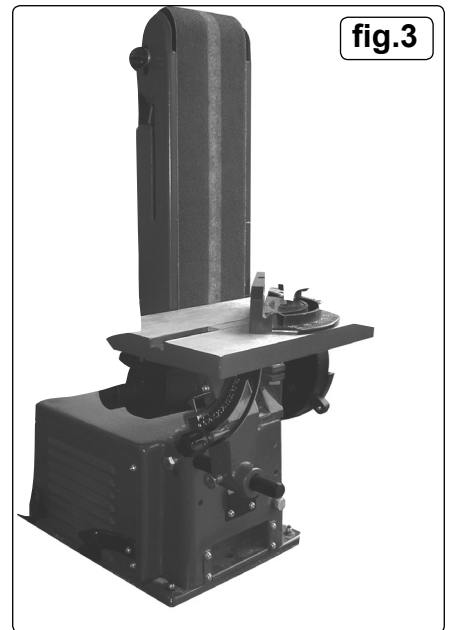

fig.3
- 5.1.3. The sanding belt bed (fig.2.7) may be rotated through 90° from the horizontal and locked for operating in a vertical position (fig.3).
- 5.2.2. When operating sanding bed in the vertical position (fig.3), mount sanding table at the foot of the belt: